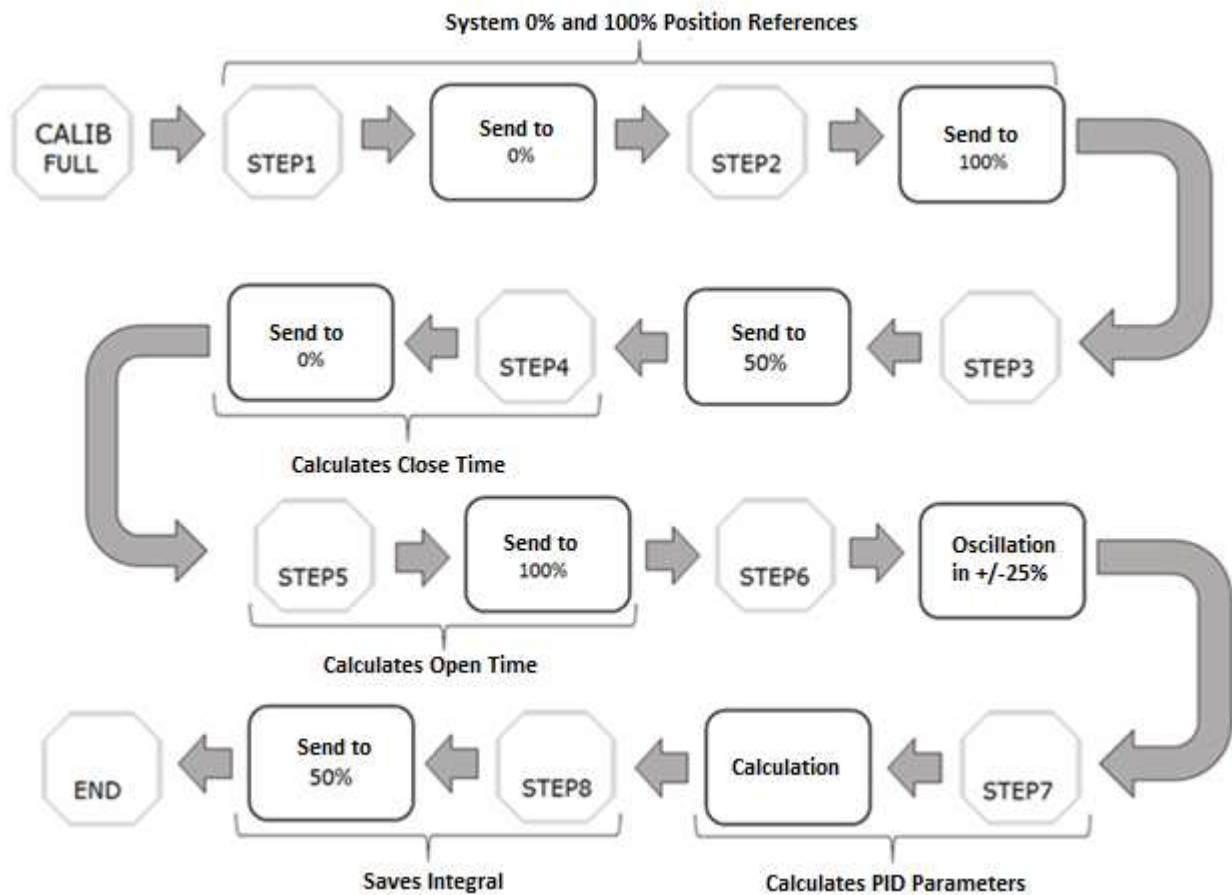

Figure 3.9 – Diagram for full calibration.
- **Calibration & Tuning:** performs the automatic position sensor calibration and PID control tuning procedures sequentially. For details on each of these procedures, see above items. Figure 3.9 indicates procedure steps.